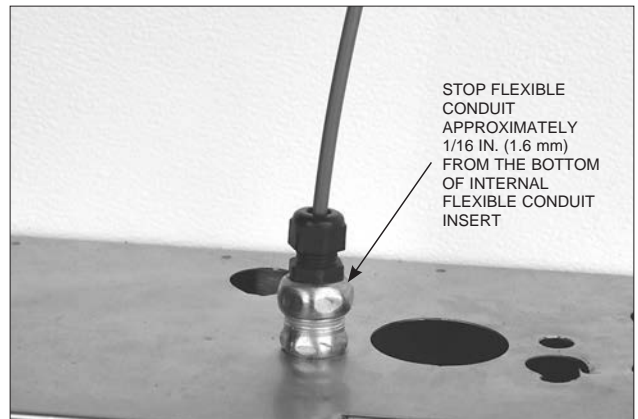

FIGURE 5-60
- 9. Slide the flexible conduit into the strain relief until it is approximately 1/16 in. (1.6 mm) from the bottom of the flexible conduit insert. See Figure 5-60.